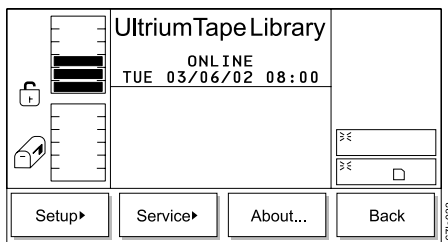

Figure 305. Main Menu (alternate screen)
1. From the Main Menu's initial screen, press the button below the **More** softkey. The Main Menu's alternate screen displays (see Figure 305).